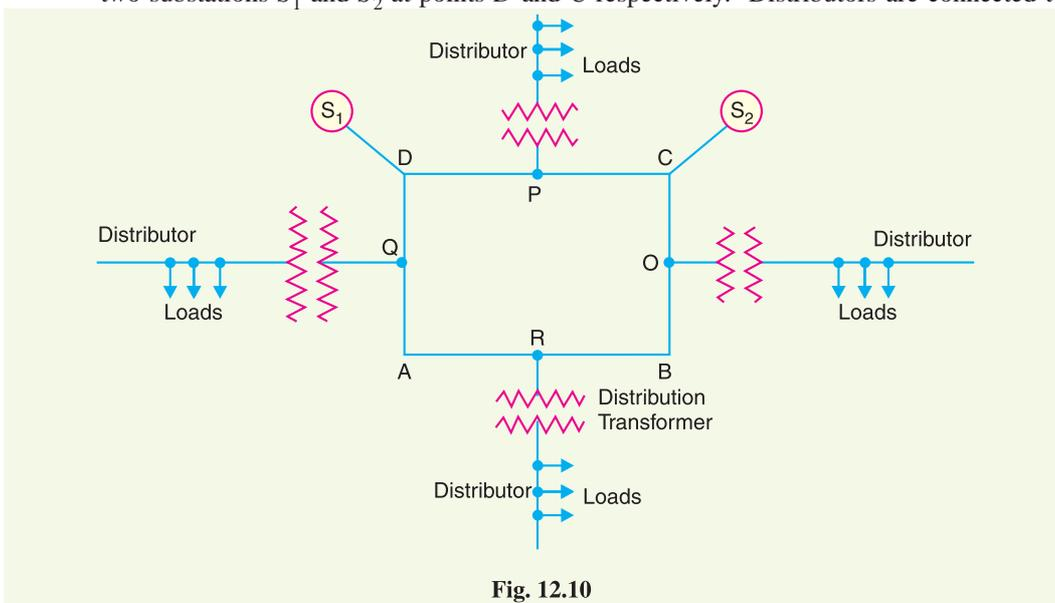

Fig. 12.10
- (iii) **Interconnected system.** When the feeder ring is energised by two or more than two generating stations or substations, it is called inter-connected system. Fig. 12.10 shows the single line diagram of interconnected system where the closed feeder ring *ABCD* is supplied by two substations  $S_1$  and  $S_2$  at points *D* and *C* respectively. Distributors are connected to